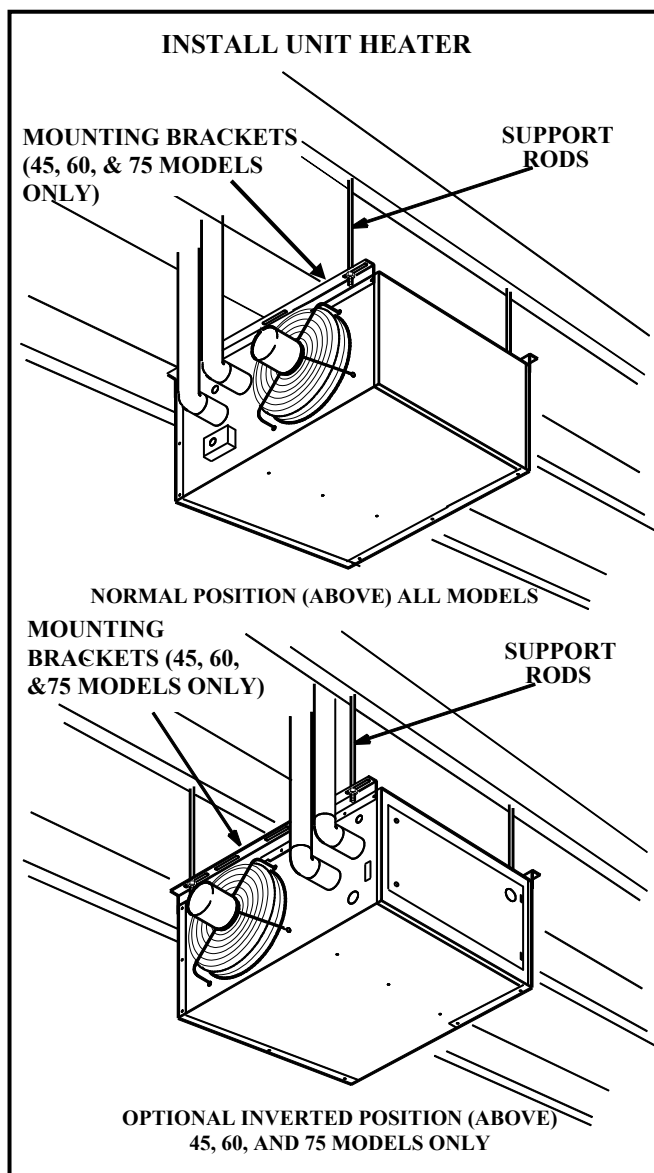

FIGURE 1
45, 60, and 75 size units may be installed in the normal position or inverted 180° as shown in Figure 1 depending on desired location as governed by clearances, vent connection, air direction, gas supply, electrical supply and service accessibility.
- 6- To support unit, secure mounting bracket to ceiling joist or truss. Unit may also hang on rods as shown in Figure 1.